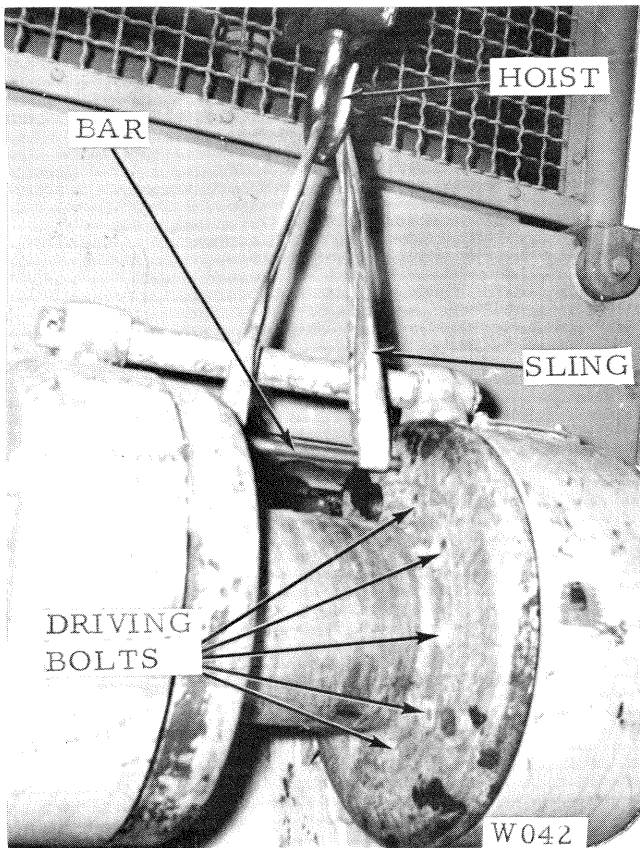

Figure 48
1. Unscrew the driving bolts securing the drum to the drive flange. Attach a hoist to the drum using a bar and sling. Remove the slack from slinging. Fig. 48.